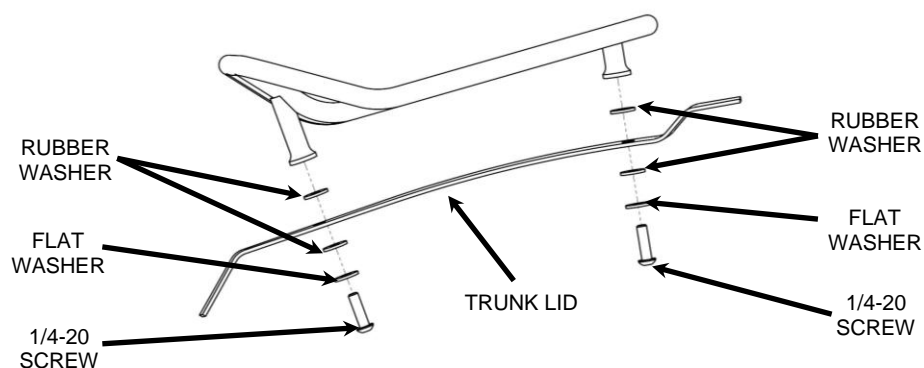

FIGURE 3
9. Locate the supplied rubber washers, flat washers, and 1/4-20 screws. Place 1 flat washer and then 1 rubber washer over each 1/4-20 button head screw. See **FIGURE 3**.
10. From the underside of the trunk lid insert each screw with flat washer and rubber washer through each of the holes and then place 1 rubber washer over the threads of the bolt from the top to hold it in place. See **FIGURE 3**.